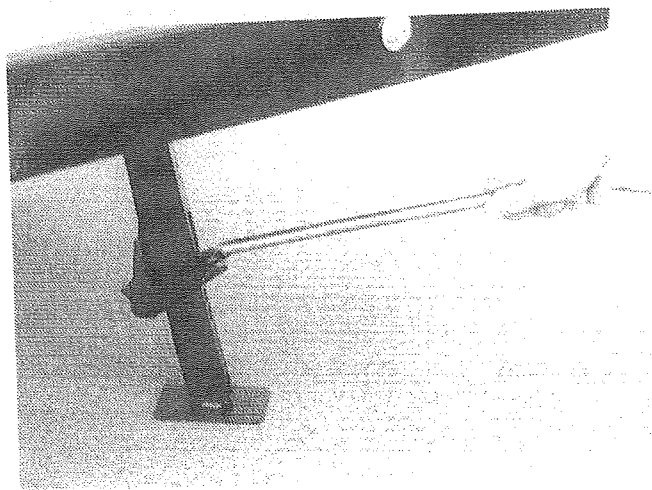

FIGURE 37
- B. Press on the quick-release lever of the stabilizer jack with the jack handle and push downward slowly. This releases the stabilizer jack and the corner of the trailer will drop somewhat. See Figure 37.